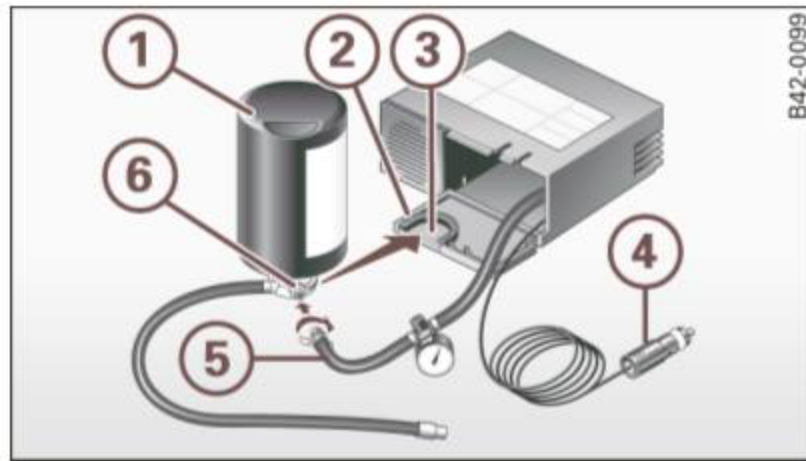
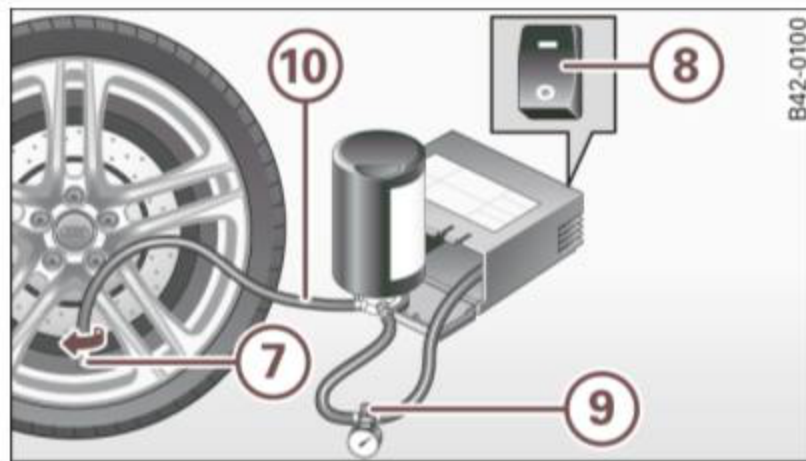

Fig. 129 Parts of the Tire Mobility System
Fig. 130 Connector for the Tire Mobility System
- Open the lid (2) of the electric air pump ⇒ fig. 129.
- Pull the plug (4) and the pressure hose (5) with the gauge out of the housing.
- Screw the pressure hose (5) of the electric air pump onto the flange (6) of the sealant bottle (1).
- Push the sealant bottle with the flange down into the recess (3) on the lid of the electric air pump.
- Screw the hose (10) onto the valve (7) ⇒ fig. 130.
- Insert the plug (4) ⇒ fig. 129 into the socket for the cigarette lighter.
- Move the switch (8) ⇒ fig. 130 on the electric air pump ⁴⁾ to position **I**. After 5 minutes, tire pressure must have reached at least 1.8 bar.
- Remove the empty inflation bottle and screw the hose (5) (5) ⇒ fig. 129 from the electric pump directly onto the valve.
- Insert the plug (4) into the socket for the cigarette lighter.